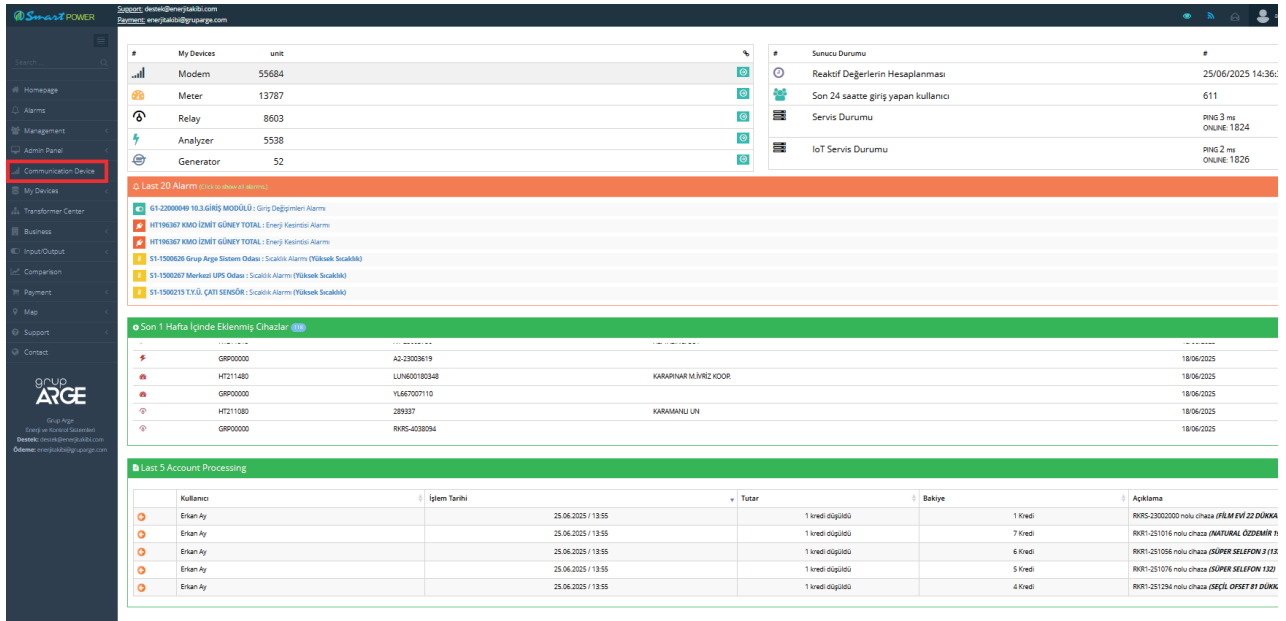

Figure 6.3
5. To add a modem to the system, click on the “Modem” menu on the left side of the page. (See Figure 6.3)